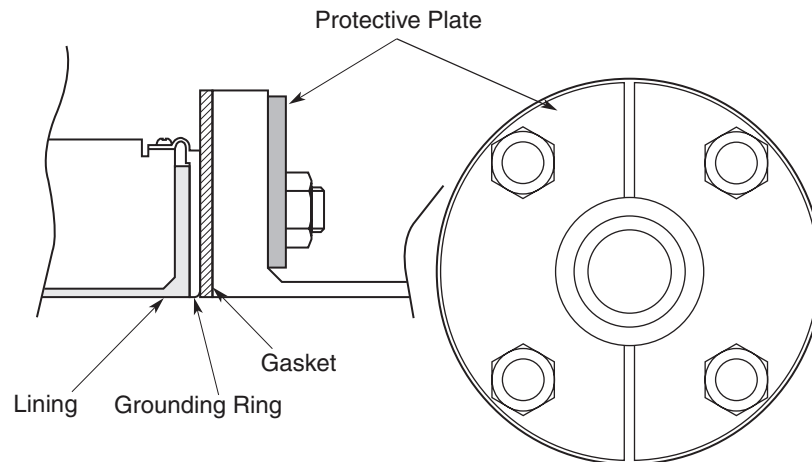

Figure 18. Installation on PVC Pipe with 316 ss Grounding Ring (with Protective Plate)
- Use this method to install the flowtube using a protective plate to prevent the PVC pipe from being deformed or damaged when the bolts are tightened with the specified torque. Install the protective plate between the outer side of the PVC flange and the flowtube, as shown in Figure 18. The protective plate protects the PVC pipe from deformation or damage when secured at the specified torque. The torque level is unrelated to the pipe or grounding ring material. See Table 3 for the appropriate torque.